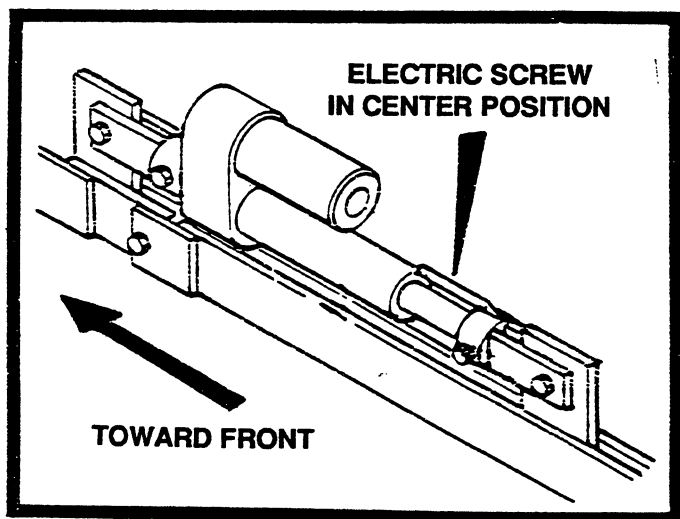

FIGURE 13
1. Before paving, center the electric flight screw on both sides of the paver. See figure 13.